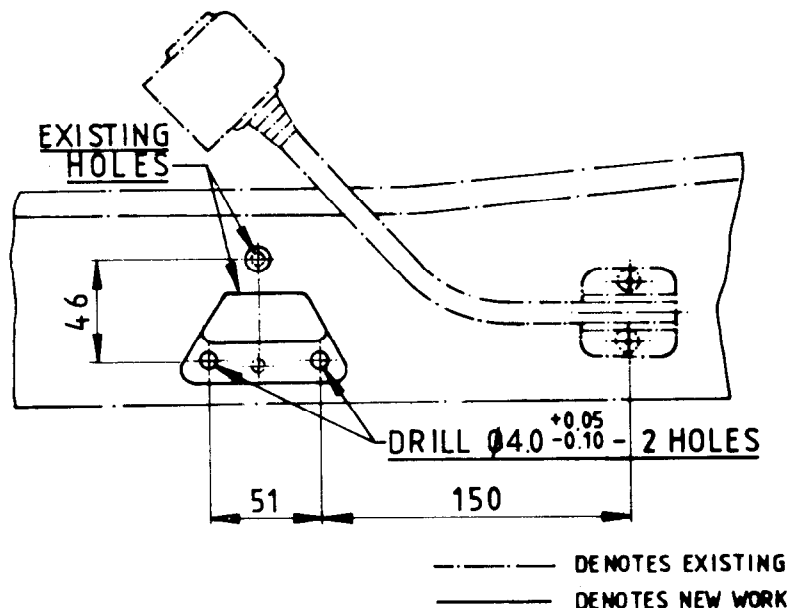

FIG 1 - DIMENSIONS MAPLIGHT CLIP
- b. Mark and drill two holes on the front of the dashboard to the dimensions shown in Fig 1.